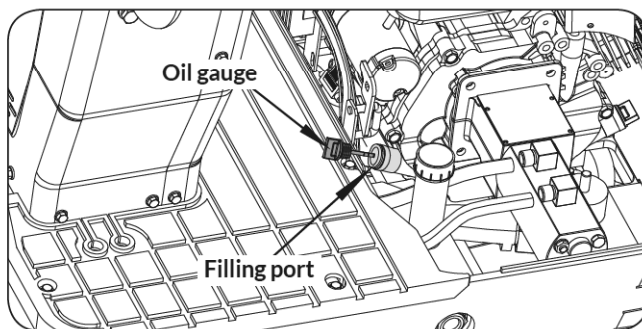

Figure 88
3. Fill with new oil up to the required level. (See **Figure 88**)